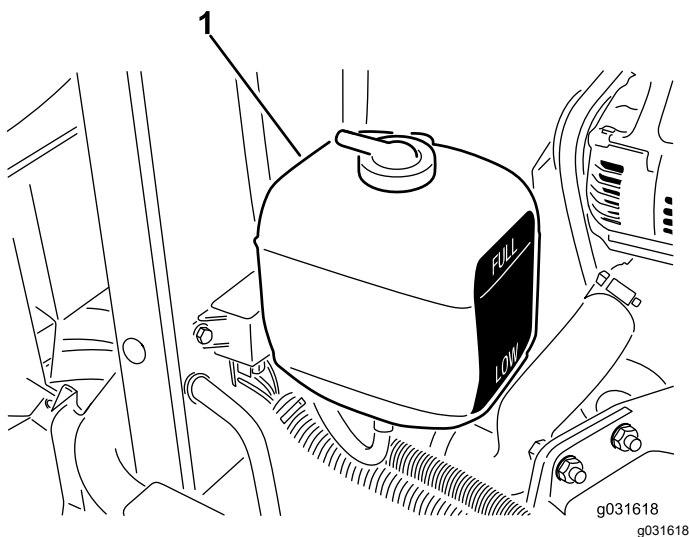

Figure 56
1. Check the coolant level in the expansion tank (Figure 56).